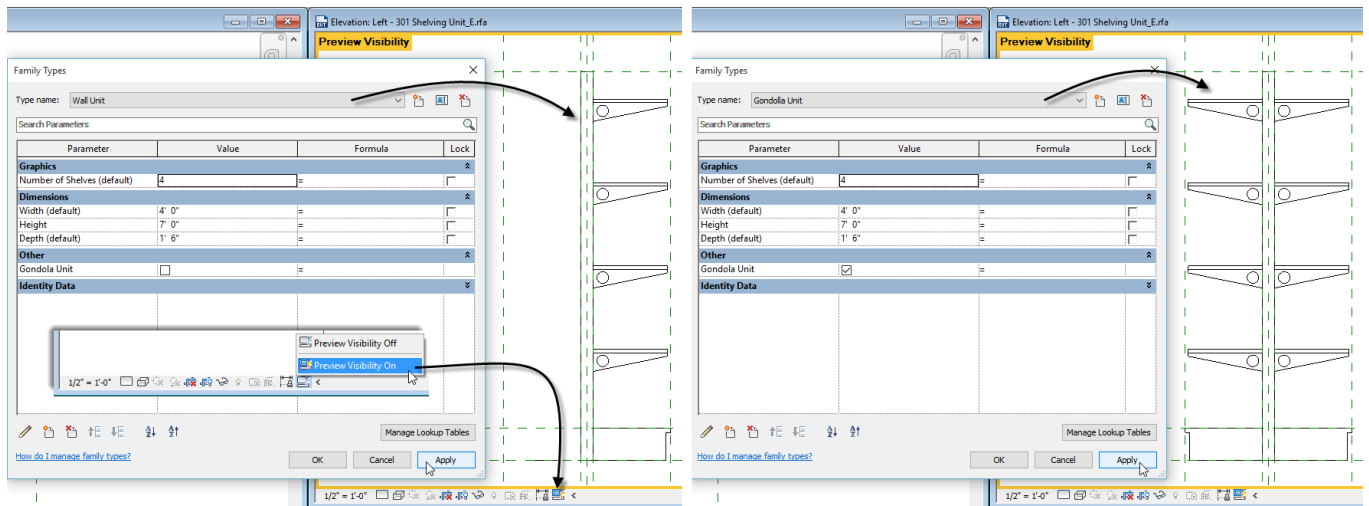

Figure 35
7. Choose the other type and then click Apply (see Figure 35).